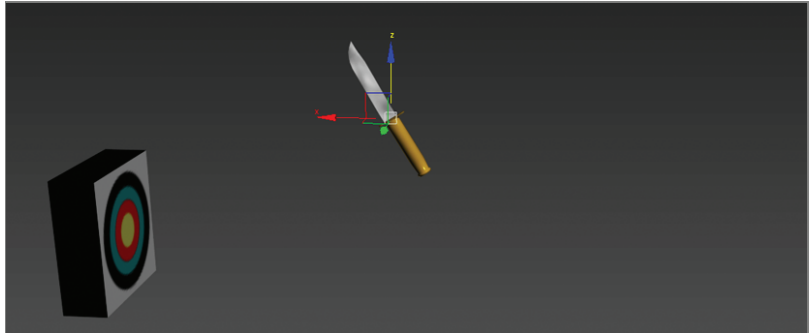

FIGURE 6.2 Move the knife up slightly at frame 15.
3. Move the time slider to frame 15, where the knife is halfway between its start and the target, and in the Camera001 viewport, move the knife slightly up on the Z-axis, as shown in Figure 6.2, so that the knife moves with a slight arc.